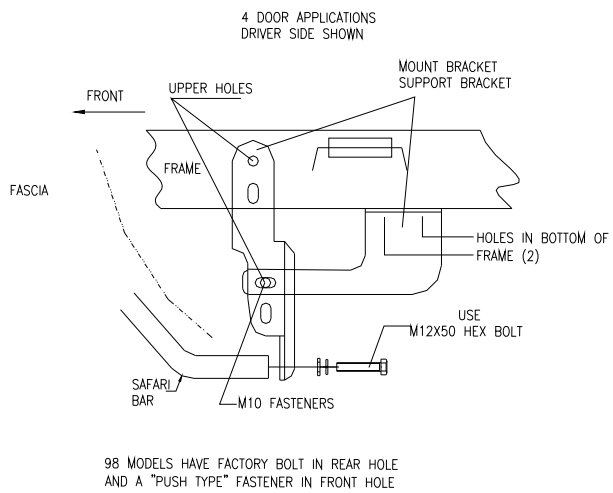
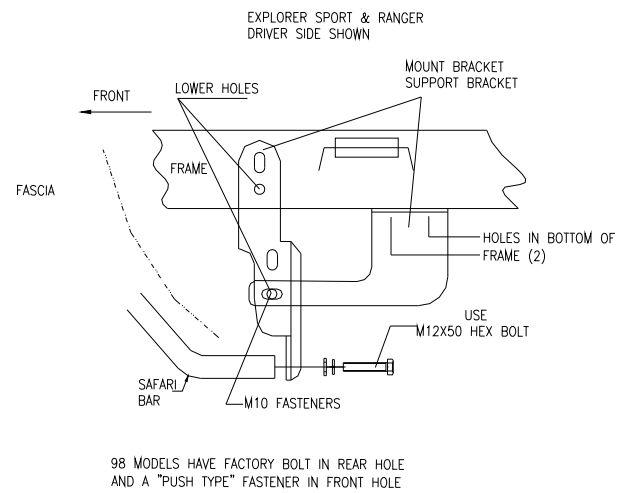
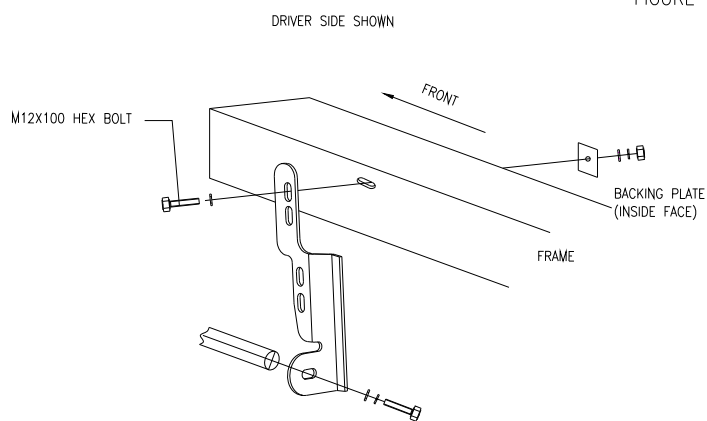

FIGURE 1
FIGURE 2
FIGURE 3
- STEP3. Install Mount Brackets on the outside face of frame members with M12×100 Hex Bolts. NOTE: 4 Door applications use upper holes. See Figure1. NOTE: ExplorerSM and Ranger uses lower holes. See Figure2. Secure with Backing Plates and 1/2" fasteners. See Figure3 Leave loose.
- STEP4. Install Support Brackets using holes in bottom face of vehicle frame. '96-'97; Secure to frame using M10 Self Tap Bolts. See Figure 1 and 2. '98; Vehicles have a factory bolt in rear hole to hold Radiator Shroud. See Figure 1 and 2. Remove with 10mm Socket. Remove "push type" fastener holding rear of shroud to frame. Install Support Bracket between top of shroud and frame. Replace factory bolt. Replace push type connector with M10 Self Tap Bolt. Leave loose.
- STEP5 Secure Support Bracket to Mount Bracket using M10 fasteners. See Figure 1 and 2 .